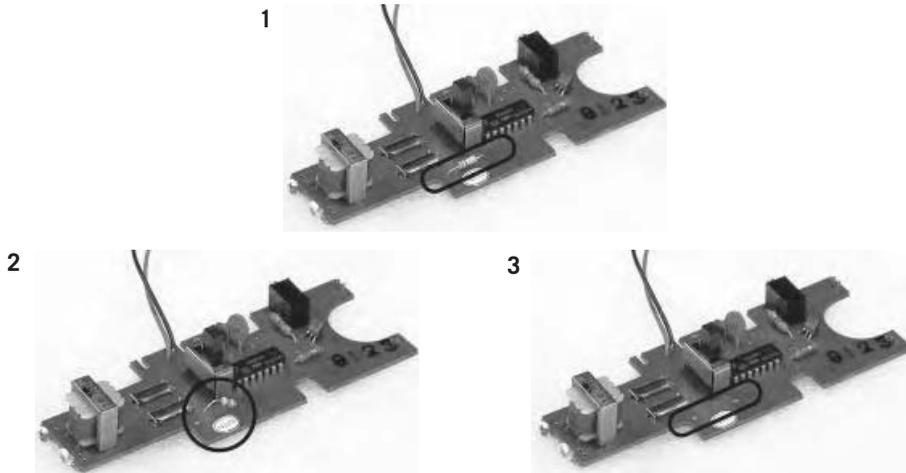

Figure 13.1 Removing a resistor.
1. Locate the clock resistor you identified in the previous experiment. Wedge a small flat-bladed screwdriver under the resistor. Melt the solder on the underside of the circuit board at one end of the resistor, and lever the screwdriver to lift that end free from the solder connection (see figure 13.1). Now grip the resistor with a pair of pliers and pull it free of the board as you melt the other solder joint. Put it somewhere safe and don't lose it! If the circuit already has a pitch-control potentiometer (“pot”), de-solder and remove it entirely.